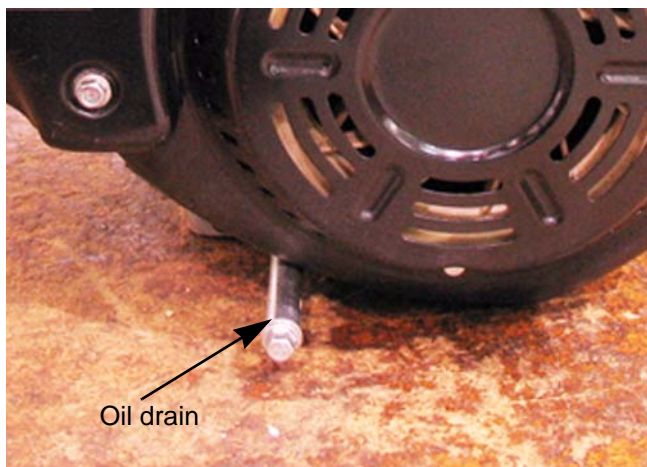

Figure 1.4
- Drain the oil by removing the drain plug located at the end of the extension pipe threaded into the base of the engine, using a 10mm wrench. See Figure 1.4.